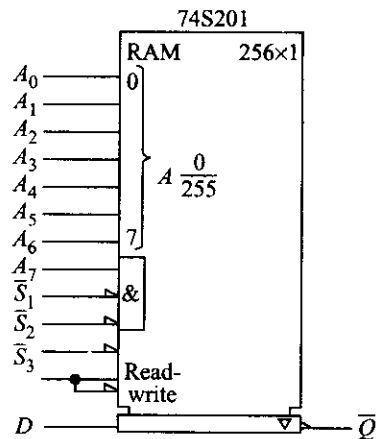

Fig. 13.13
For instance, a 74S201 is a 256-bit bipolar RAM, arranged in a 256×1 array. The IEEE symbol for the 74S201 (\bar{S} 201) is given in Fig. 13.13 on the next page. Eight address lines (A_0, A_1, \dots, A_7) are required to select one of the 256 cells. There are three chip select lines (\bar{S}_1, \bar{S}_2 and \bar{S}_3), all of which must be low in order to activate (select) the chip. When the R/\bar{W} line is high, the data bit at input D is stored at the selected address. When the R/\bar{W} line is low, the *complement* of the bit at the selected address appears at the \bar{Q} output.
10. What binary address will select cell 145 (decimal) in the 74S201 in Fig. 13.13?